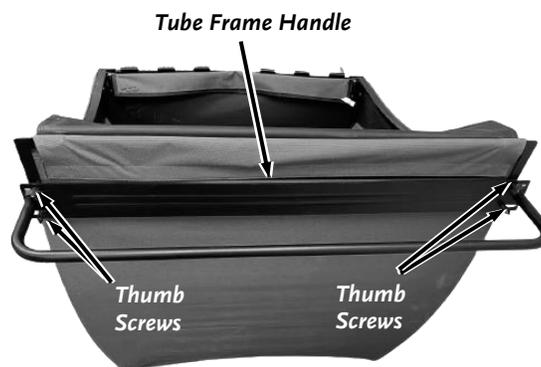

Figure 52
4. Attach the Tube Frame Handle by positioning the slots into the two exposed threads on each corner. Once in place, secure the handle with four Thumb Screw Knobs (Figure 52).